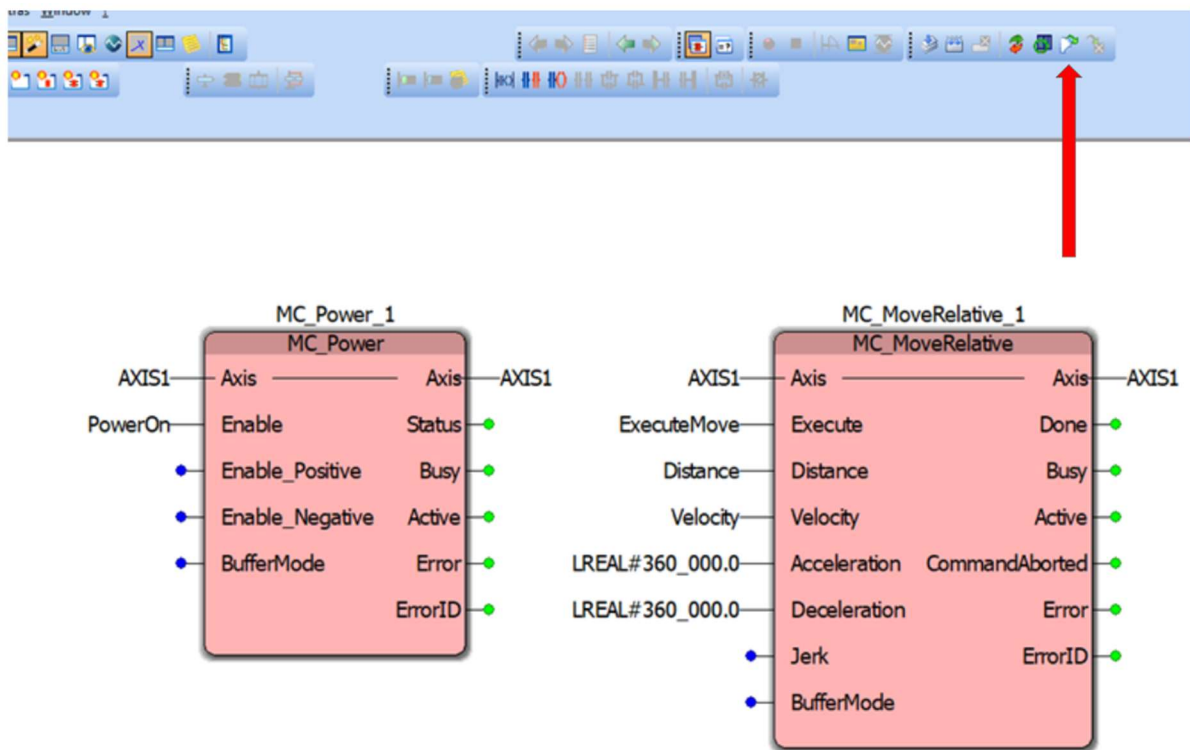

Figure 12: MC_Power + MC_MoveRelative Final Product and Arrow to 'Download Changes'
- The final product should look like Figure 12
- Once you are done configuring all the variables and the block matches Figure 12, click 'Download Changes' which is also shown in Figure 12.